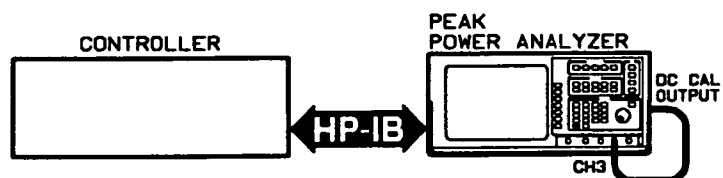

Figure 2-15. Channel 3 Vertical Calibration Setup
1. Set the address of the Peak Power Analyzer to seven (7) using the following steps:
4. Connect the equipment as described on the screen and shown in figure 2-15.